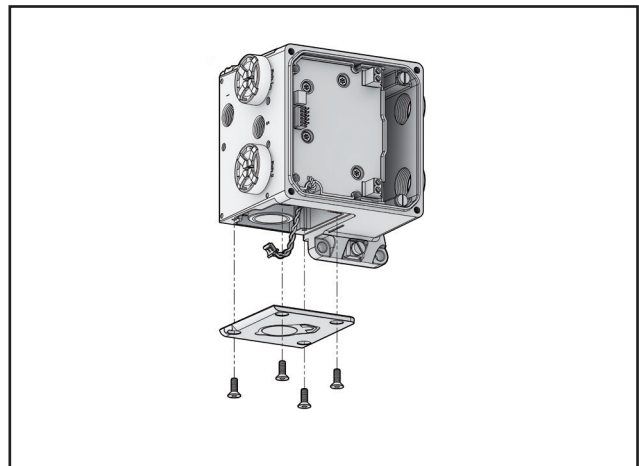
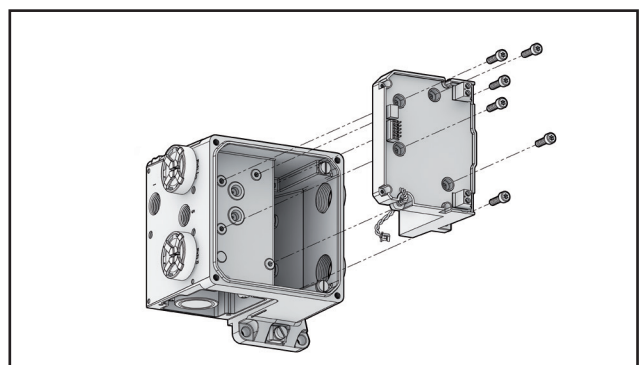

Fig. 94 NDX_510_
Fig. 95 NDX_510_
- o Loosen the electronics module screws and grounding screws (NDX_511_ & NDX_512_), then remove the electronics module. (Fig 94, Fig 95)